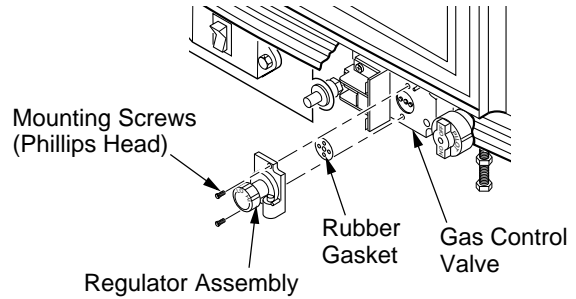

Figure 17 - Removing/Replacing Regulator Assembly and Rubber Gasket
2. Using a phillips head screwdriver, remove the two mounting screws fastening the regulator assembly to the gas control valve (see Figure 17).
3. Remove regulator assembly and rubber gasket from control valve (see Figure 17).
6. Attach regulator assembly to gas control valve using the two mounting screws removed in step 2. Tighten screws securely (approximately 25 in-lbs.) (see Figure 17).